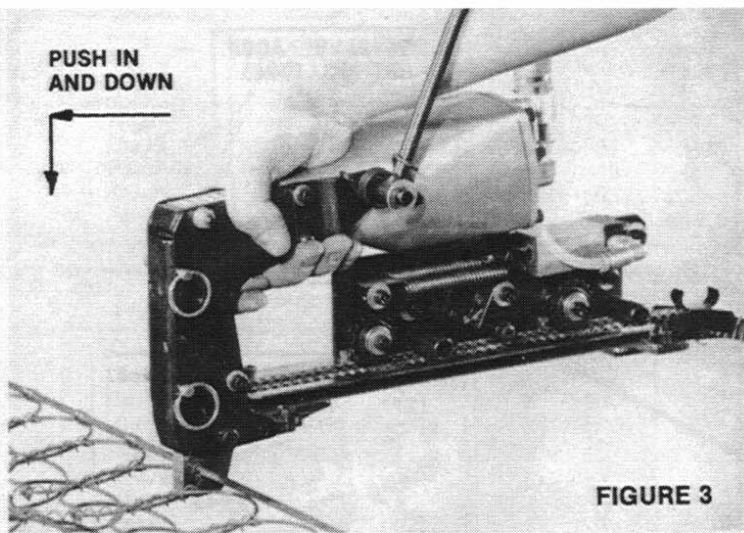

FIGURE 3
3. Position the tool to the border wire and coil by pushing *in and down* to properly align the wires to the tool (FIGURE 3).